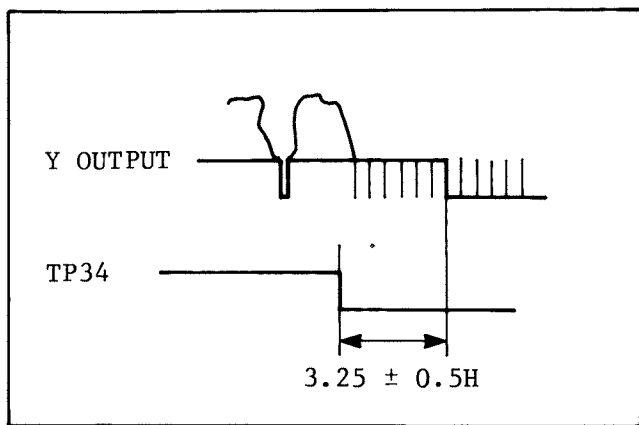

Fig. 4 PG SHIFTER
9. Switch the slope selector on the scope to either + (plus) or - (minus) then adjust VR13 (PG SHIFTER B) so that the difference between the rising and falling edges of the switching pulse is less than 6 sec as shown in Fig. 4.